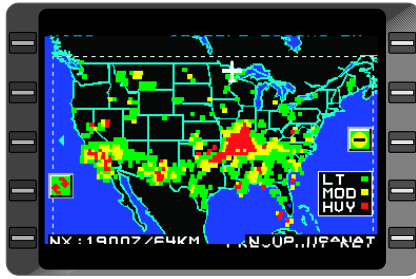

Figure 7-185
- After selecting a NEXRAD product to display, on the **WX DISPLAY OPTS** page press **REGL DISPLAY** (LSK 2R) to change the map scale, or you may change scale later by pressing “+” or “-” from the **MAP** page. Press **RETURN** to view the **MAP** page. See Figure 7-185.